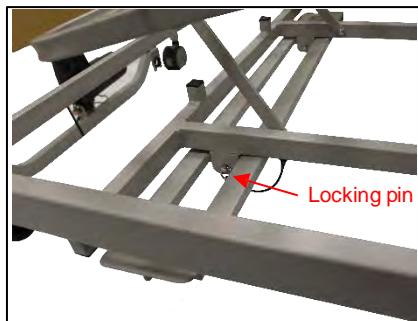

Figure 14: Extending the bed
- The extension platform is located under the footend of the bed and is secure with locking pins. (*figure 14*)